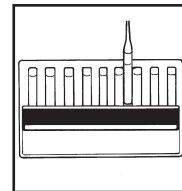

Figure 5
- b. High Range Comparator (fig. 5):**